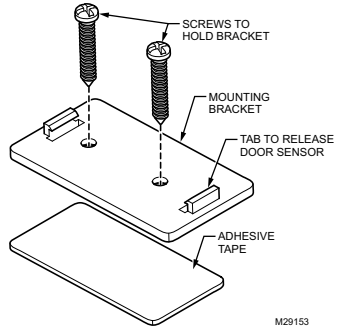

Fig. 7. Door sensor bracket mounting.
3. Place the mounting bracket for the door sensor high on the frame of the front door. Secure the bracket to the door frame by using the two screws or adhesive tape provided. See Fig. 7 on page 5.